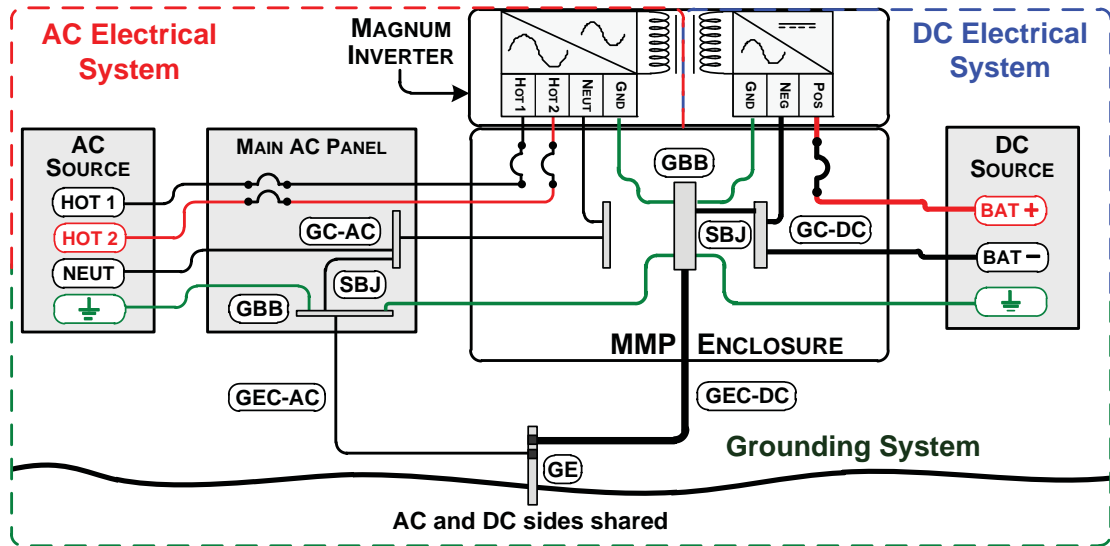

Figure 2-18, Multiple Connections to DC Ground Rod (Method 2)
2. **Multiple Connections to Ground – Single Electrode (Method 2):** When the AC and DC service panels are near each other, then the AC Grounding Electrode Conductor (GEC-AC) and DC Grounding Electrode Conductor (GEC-DC) can be connected to a single Grounding Electrode (see Figure 2-18). In this method—since there are multiple connections to the DC Grounding Electrode (GEC-DC)—the size of the DC grounding electrode conductor cannot be smaller than the largest conductor in the DC system (usually the battery-to-inverter cable).